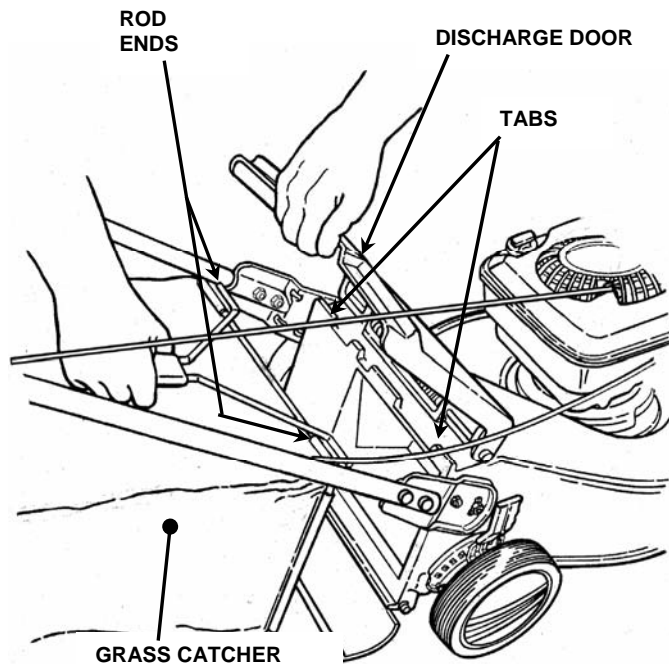

FIGURE 5
STEP 10: Install grass catcher to mower as follows: Lift discharge door, then grasp handle and hold grass catcher/frame up while placing rod ends over tabs at rear of mower deck. Release discharge door. See Figure 5.